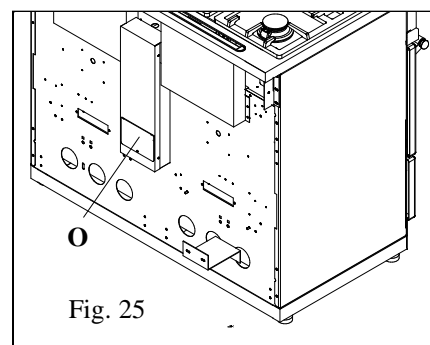

Fig. 25
- Remove access door **O** (Figure 25, gas oven range) or **P** (Figure 26, gas and electric range).